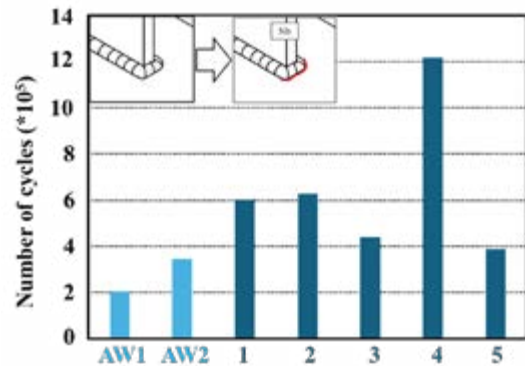

Fig.6 Effect of PPP treatment 5)
this method can extend the fatigue life of the component by a period equal to or longer than the time it took for the crack to form as shown in Fig.65). In this construction, since the cracks had not progressed to the base metal, the method provided advantages in both construction speed and cost. By adopting this technique, fatigue cracks can be repaired quickly and cost-effectively, enabling efficient and effective post-defect maintenance.
The construction process is shown in Fig.7. The locations and extent of the cracks were identified in advance using MT. Before the treatment, the areas to be peened were marked with a special pen-type highlighter (PEENSCAN PEN 220-6) from Electronics Inc. to visually confirm whether the treatment had been properly applied. Peening was performed on the crack area, within  $\pm 2$  mm of the crack line, and a black light was used to detect any untreated regions. As shown in Fig.6, this method is expected to be highly effective in extending the service life of structures by repeatedly striking and closing fatigue cracks5). If any untreated areas were found, the cracks were retreated to ensure complete closure. Finally, penetrant testing (PT) was conducted to confirm that all treated areas had been fully closed.